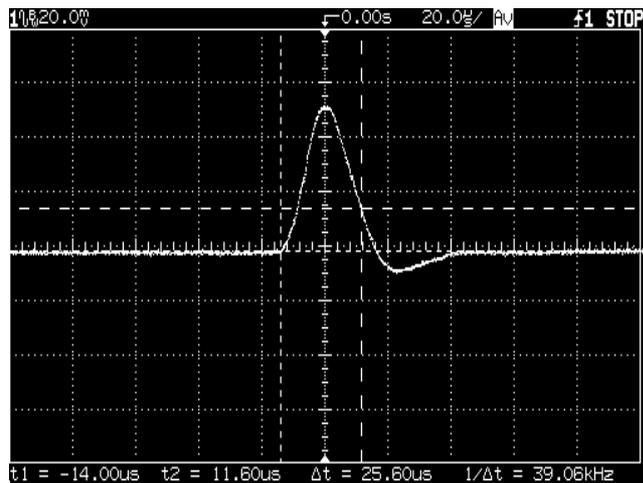

Figure A-4 Transient Response Time
- 5 Adjust the oscilloscope to display transients as shown in Figure A-4. Note that the pulse width ( $t_2 - t_1$ ) of the transients at 15 mV from the base line is no more than 50  $\mu$ sec for the output.